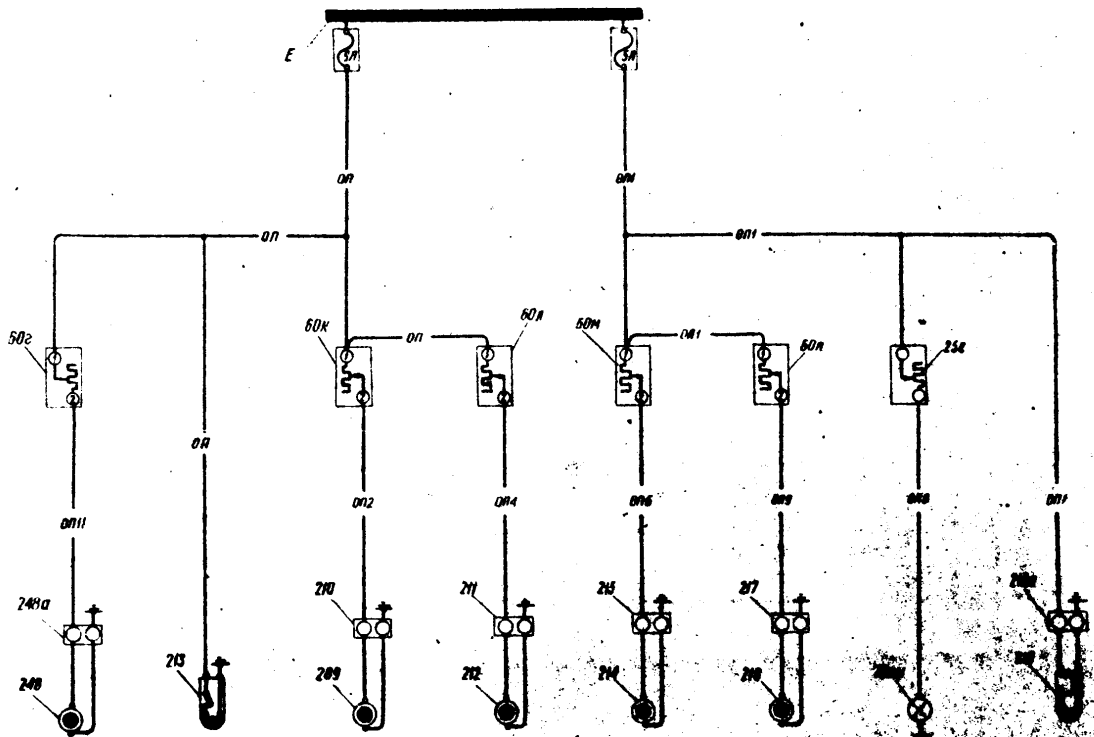

Fig. 136. Principal circuit diagram of the pilot's cabin illumination.
1. Pilot's cabin lighting /fig. 136 - 144/